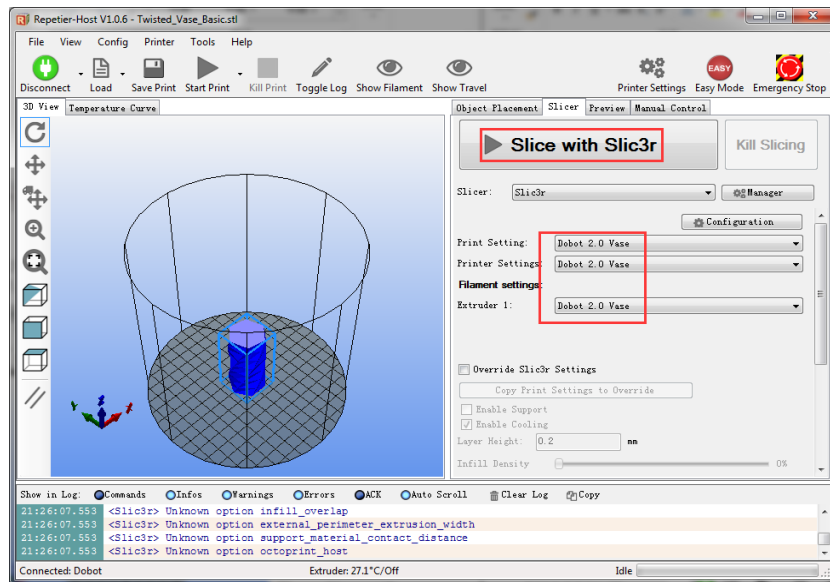

Figure 5.144 Start to slice
6. Click **Slici with Slic3r** on the **Slicer** tab of the **Repetier Host** page, as shown in Figure 5.144.